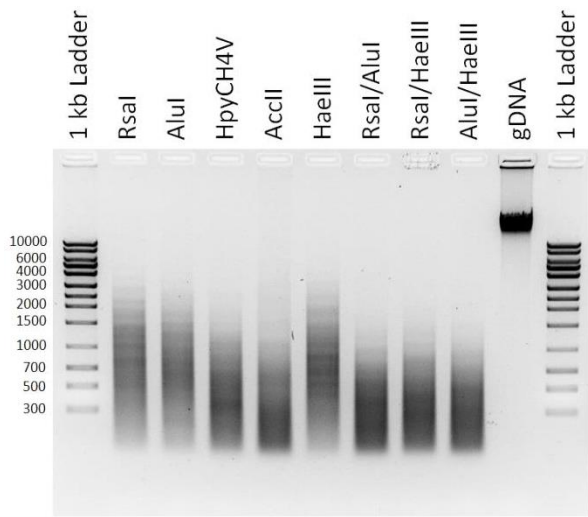

Figure 2. Results of *E. coli* restriction digest testing. Optimal results are seen with HpyCH4V and RsaI + HaeIII.
- Review results on gel (agarose or E-gel) (Figure 2).